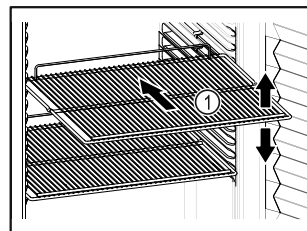

Fig. 40 Example illustration
- ☐ If storage surfaces Fig. 40 (1) are movable, adjust them according to height.